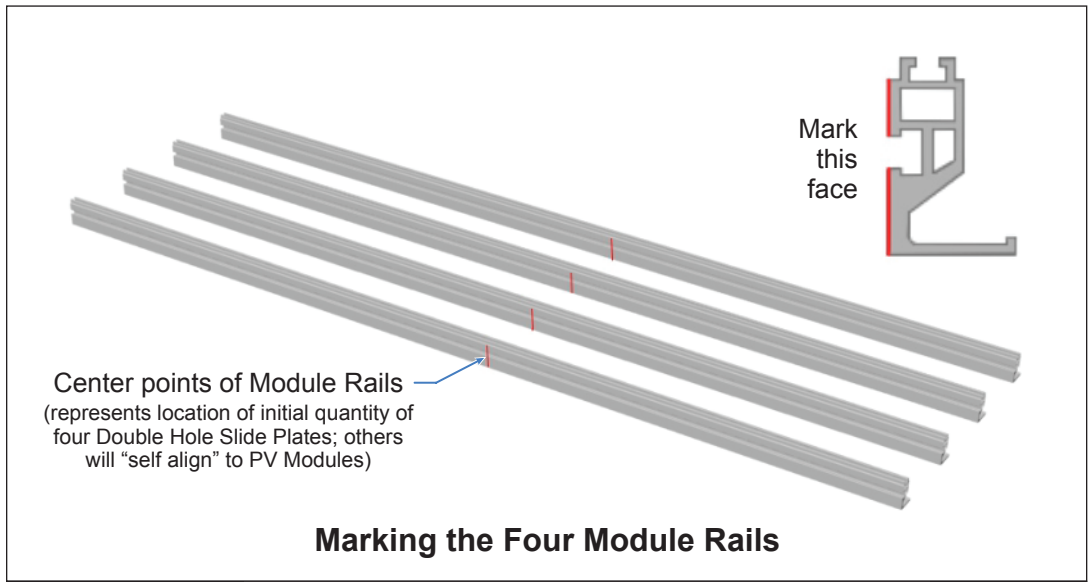

Figure 1-2
B. Mark the four Module Rails at the center line. Figure 1-2